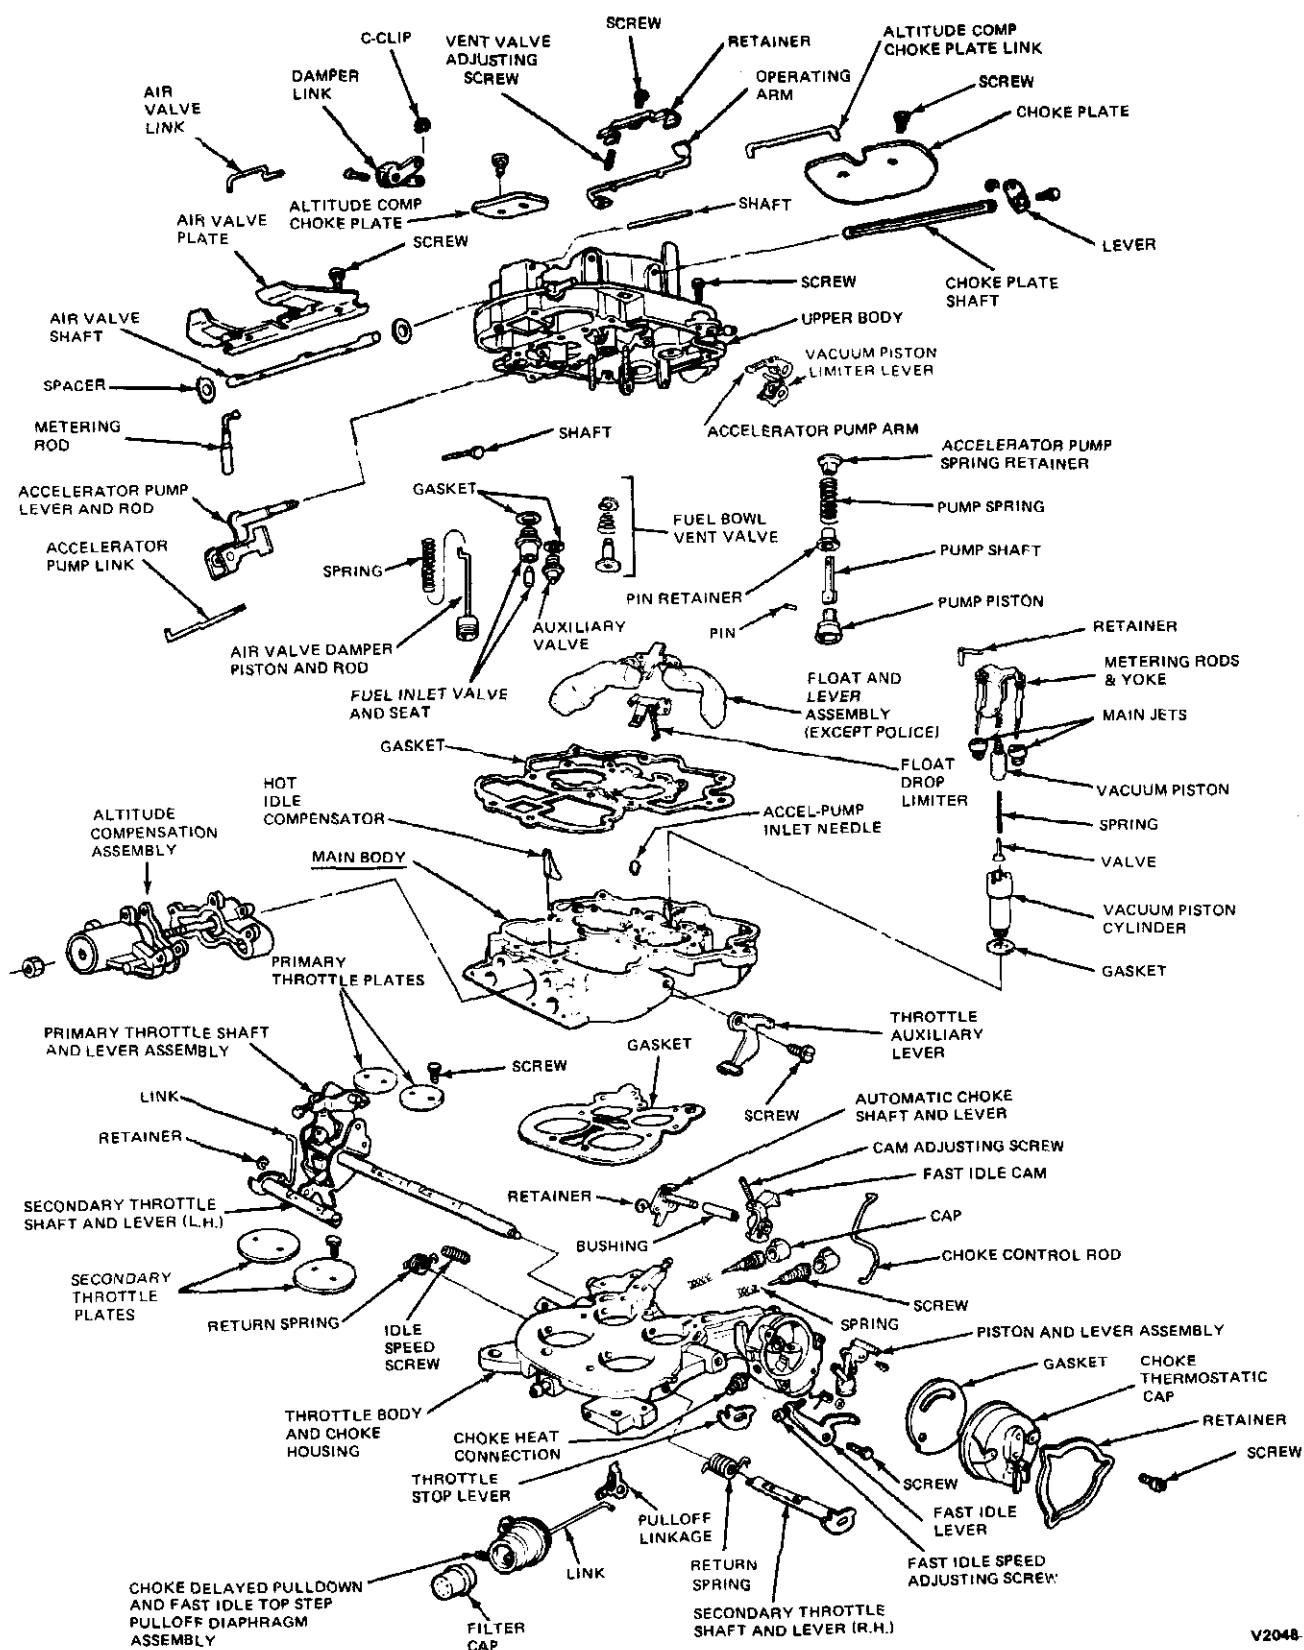

FIG. 34 Model 4350 4-V Carburetor With Altitude Compensation—Disassembled View
9. If it is necessary to remove the fast idle cam or bushing, carefully press the bushing out of the choke housing and bushing column. **The column may bend out of alignment or break without proper support to the column during bushing removal or installation. Make sure all holes in the new gaskets have been properly punched and that no foreign material has adhered to the gaskets. Gasket surfaces must be clean and flat and free of nicks or burrs.** The carburetor assembly is shown in Fig. 34.